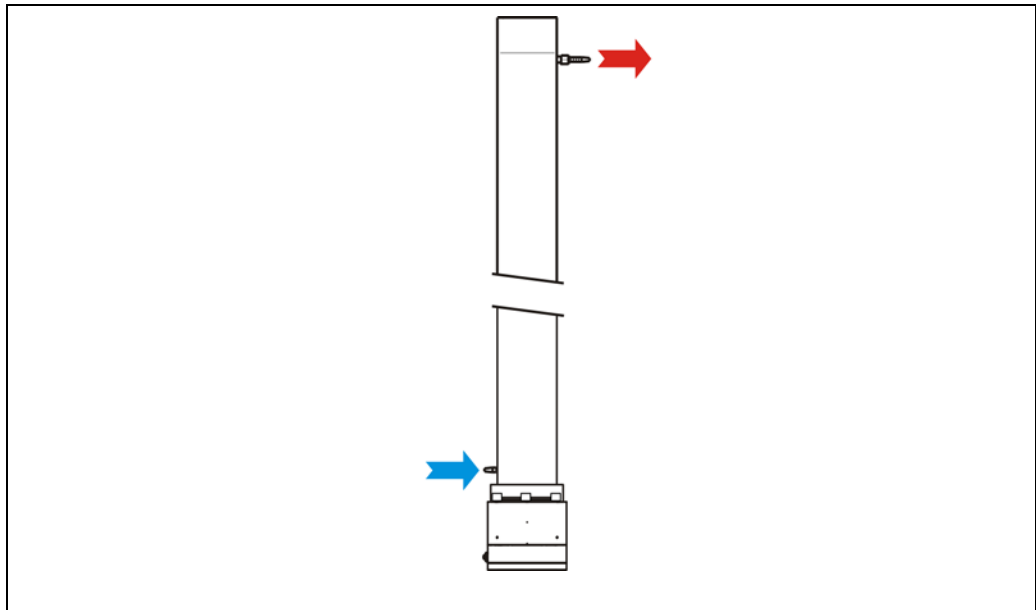

Fig. 57 Water Cooling Installation
3. Loosen the four screws of the housing cover and remove the cover (Fig. 57, item 2).
6. Remove the holder (Fig. 57, item7) with the scintillator/multiplier combination of the electronics by loosening the four Phillips screws on the side of the holder.